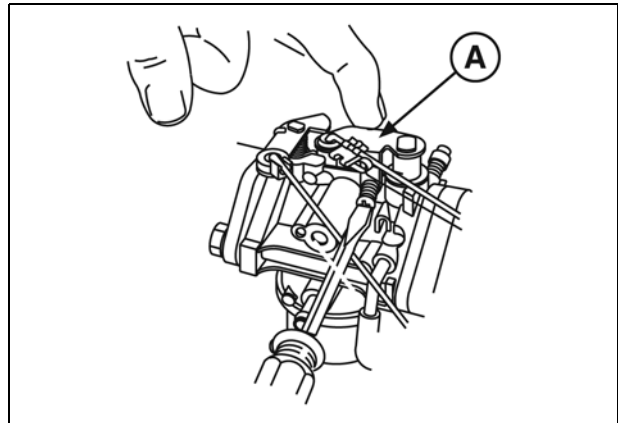

Figure 24
- With control lever on equipment in SLOW position, hold throttle lever (A, Figure 24) against idle speed screw and adjust idle speed to 1200 RPM.